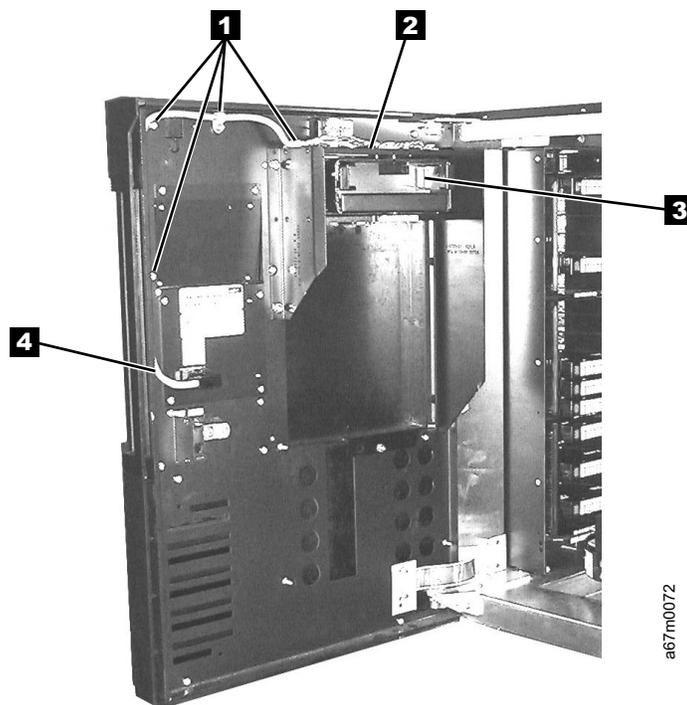

Figure 7-41. I/O Station, Single Slot
4. See Figure 7-41, if a cartridge is present at the I/O Station **3**, remove cartridge.